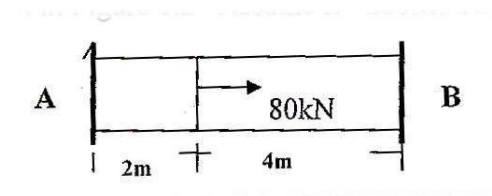

Fig. 2
- (b) Calculate the support reactions of the bar at junction 'B' of the member loaded as shown in Fig. 2. Assume  $E = 200$  MPa and diameter = 25 mm. [5]